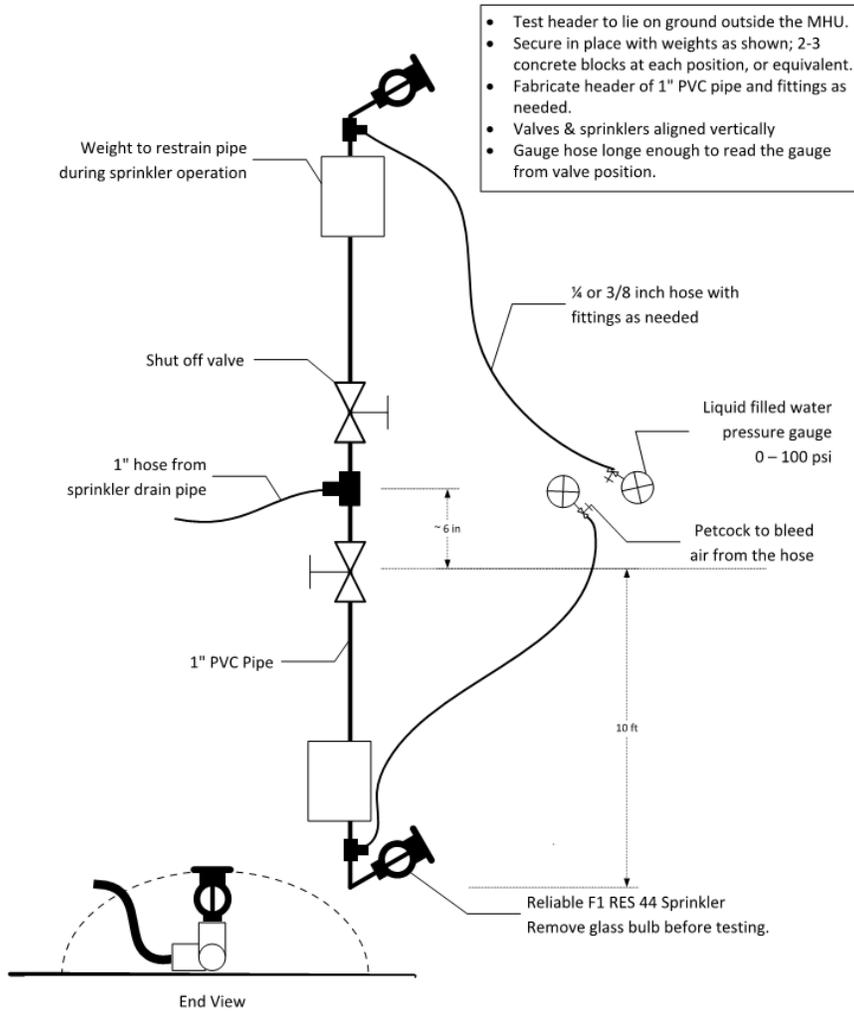

Figure 1 Flow test header
- Connect test manifold, as shown in Figure 1, to sprinkler drain line (with drain valve in between) with 1-inch hose